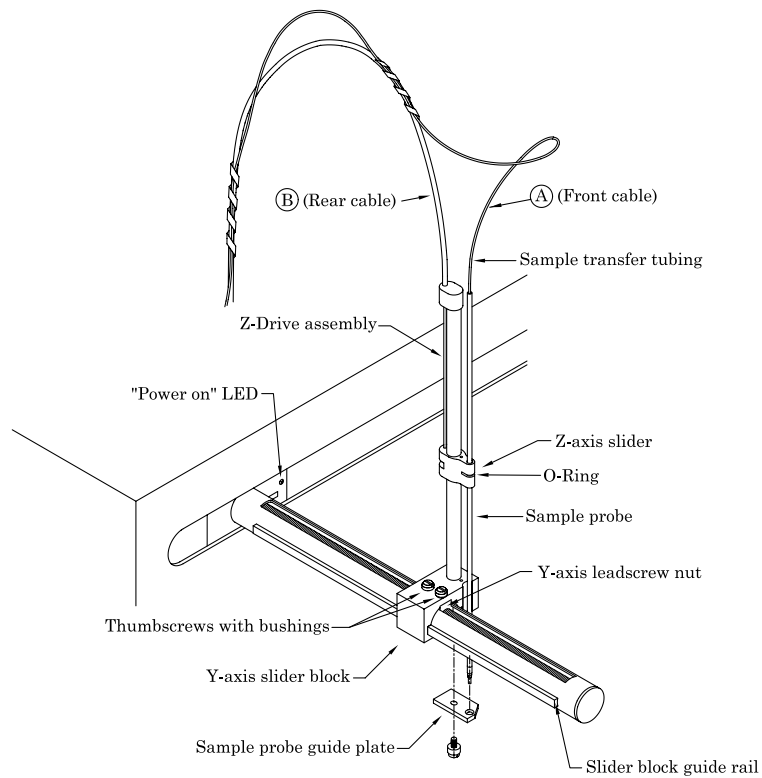

Figure 3-1. Z-drive Assembly.
Mounting the z-drive assembly on the Auto Sampler is the first major task. The z-drive assembly must be attached to the Auto Sampler arm to allow movement and function of the sample probe. Figure 3-1 illustrates the z-drive assembly components.
To attach the z-drive assembly to the Auto Sampler arm, complete the following steps, with reference to Figure 3-1.
Ensure that the front white-colored cable (labeled "A") goes to the left side of the z-axis rotor (as viewed from the back of the Auto Sampler). The rear white-colored cable (labeled "B") goes to the right side of the z-axis rotor (as viewed from the back of the Auto Sampler). See Figures 3-1 and 3-2. Failure to connect the cables correctly will result in Auto Sampler malfunction.
- 1 Install an O-ring in the slot on the z-axis slider (Figure 3-1).**
- 2 Install the sample probe through the slider block and push through the O-ring (Figure 3-1).**
- 1 Adjust the z-axis slider (with attached sample probe) so that the slider is approximately 3-millimeters below the top of z-axis drive (see Figure 3-1).***